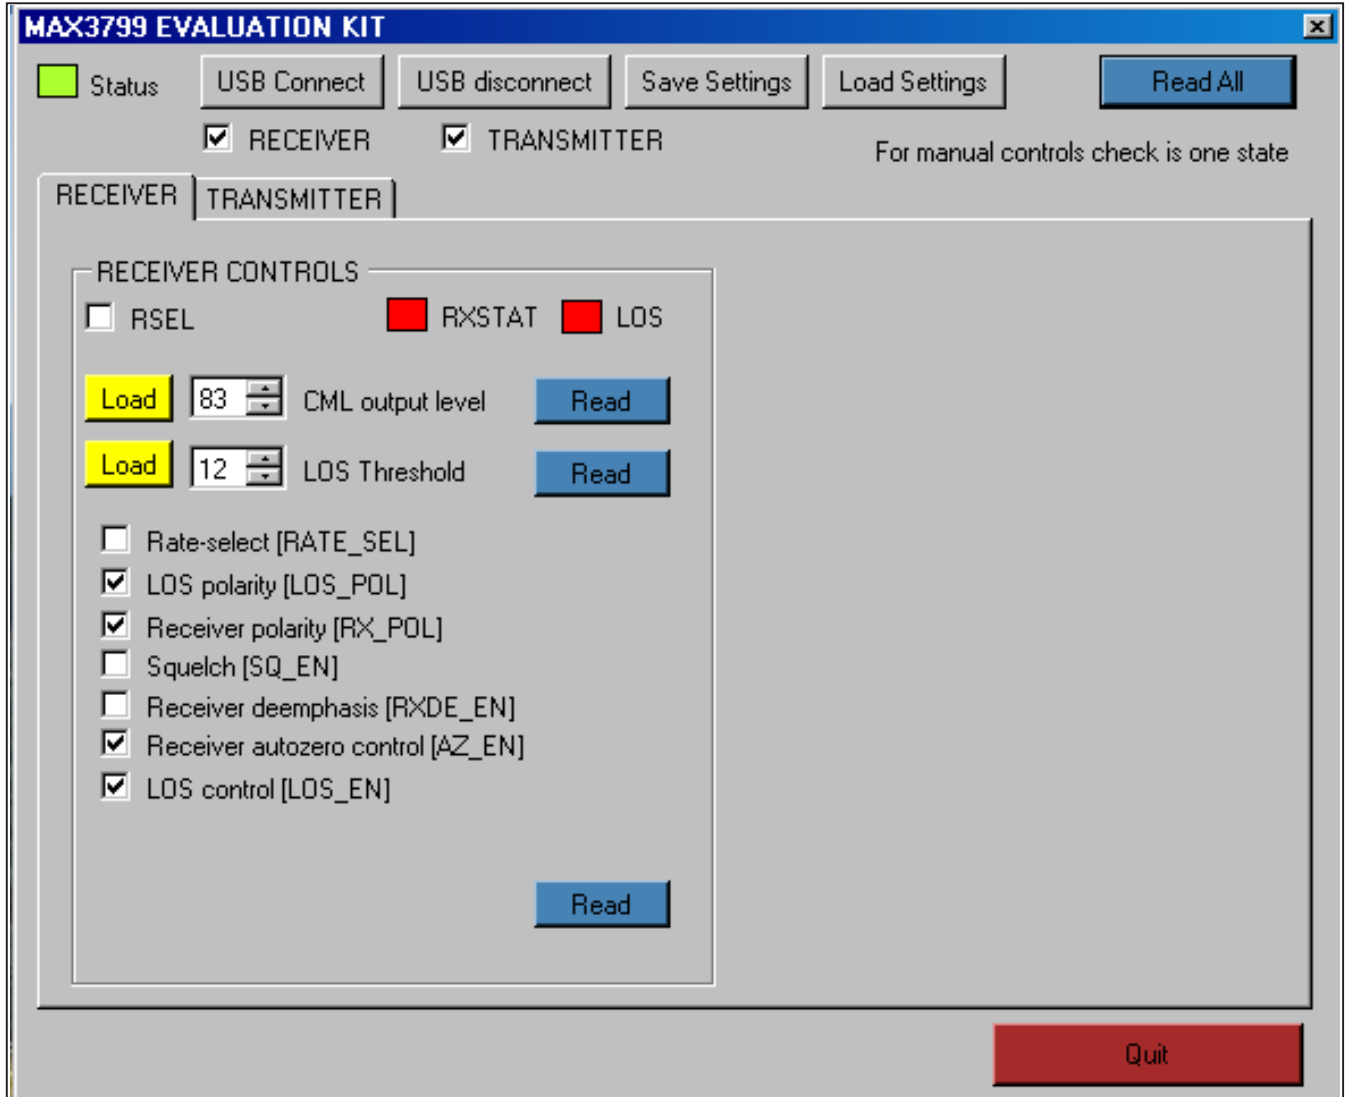
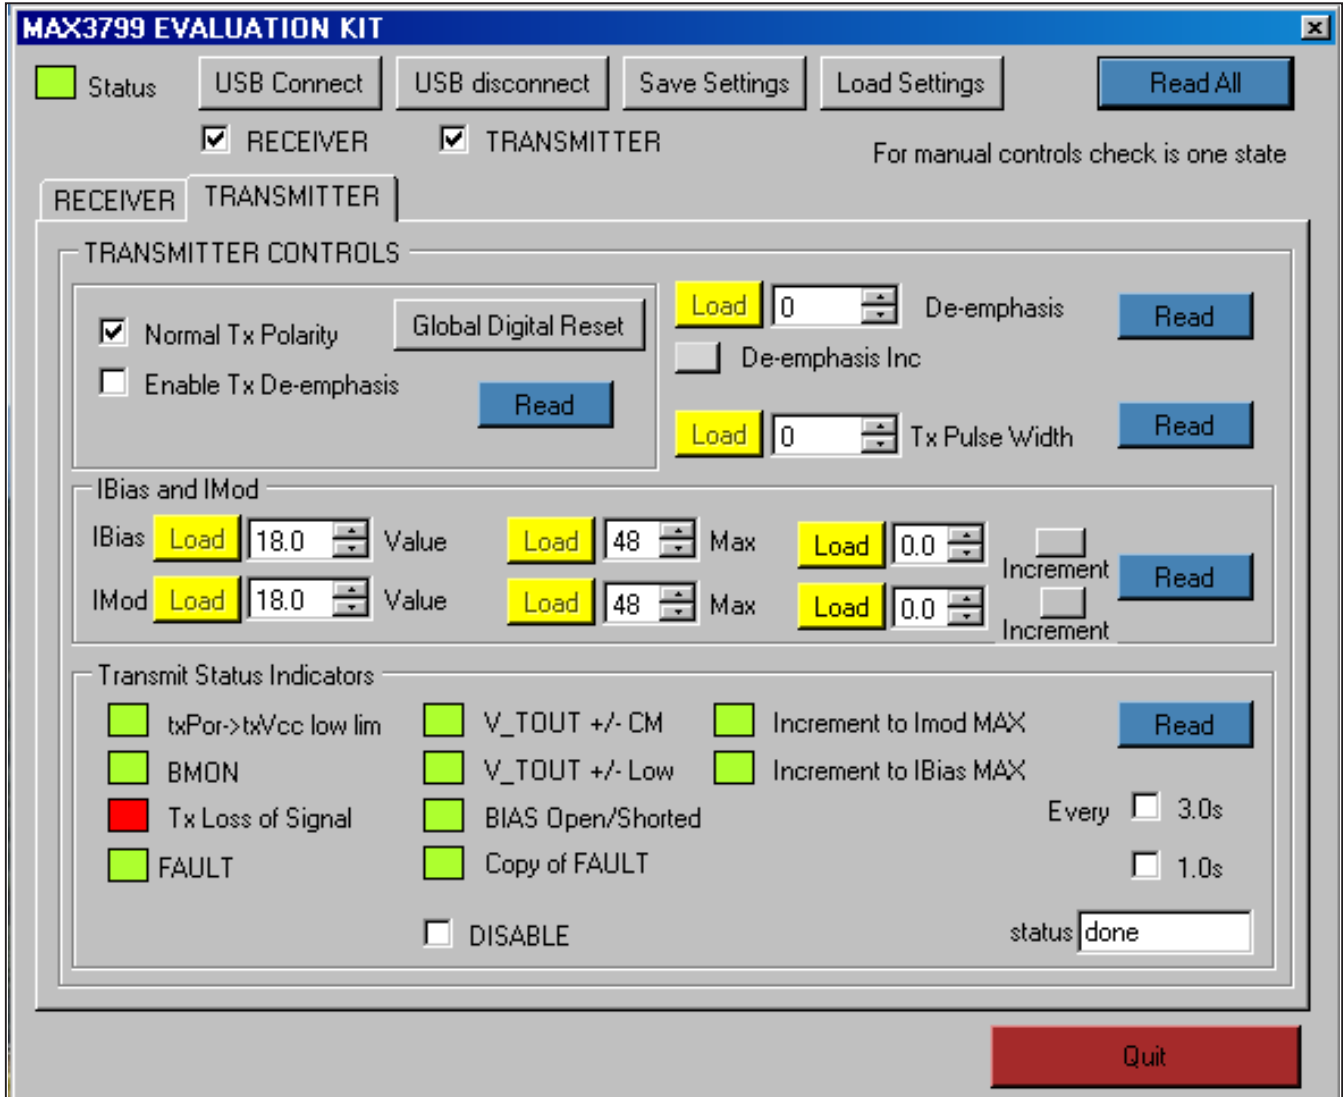

Figure 1. MAX3799 EV Kit Software (Receiver)
Figure 2. MAX3799 EV Kit Software (Transmitter)
- 8) The receiver (Figure 1) and transmitter (Figure 2) are controlled on separate tabs. The registers contain a default setting and can be read using the **Read All** button. For detailed register functions, refer to the MAX3799 IC data sheet.